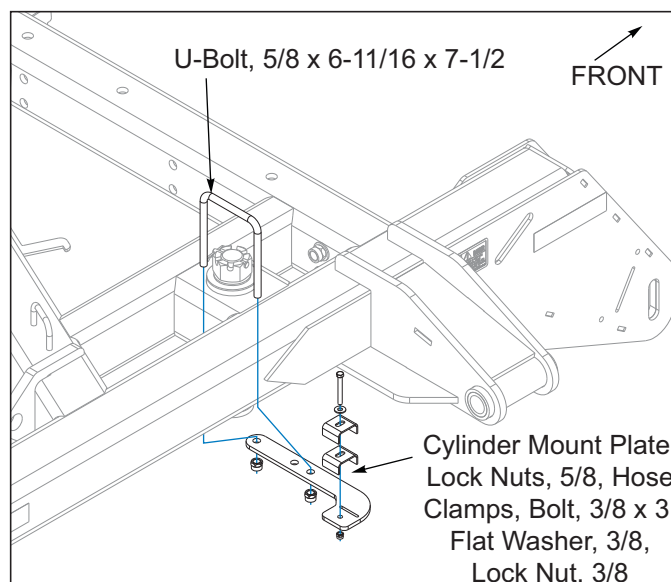

Figure 3-12: Hose Mount Plate 7531-32'-35'
8. Install the hose mount plate to outside tube of center frame, both sides using 5/8 x 6-11/16 x 7-1/2 u-bolts and 5/8 lock nuts **See Figure 3-12**. Attach hose clamps with 3/8 x 3 bolt, 3/8 flat washer and 3/8 lock nut.